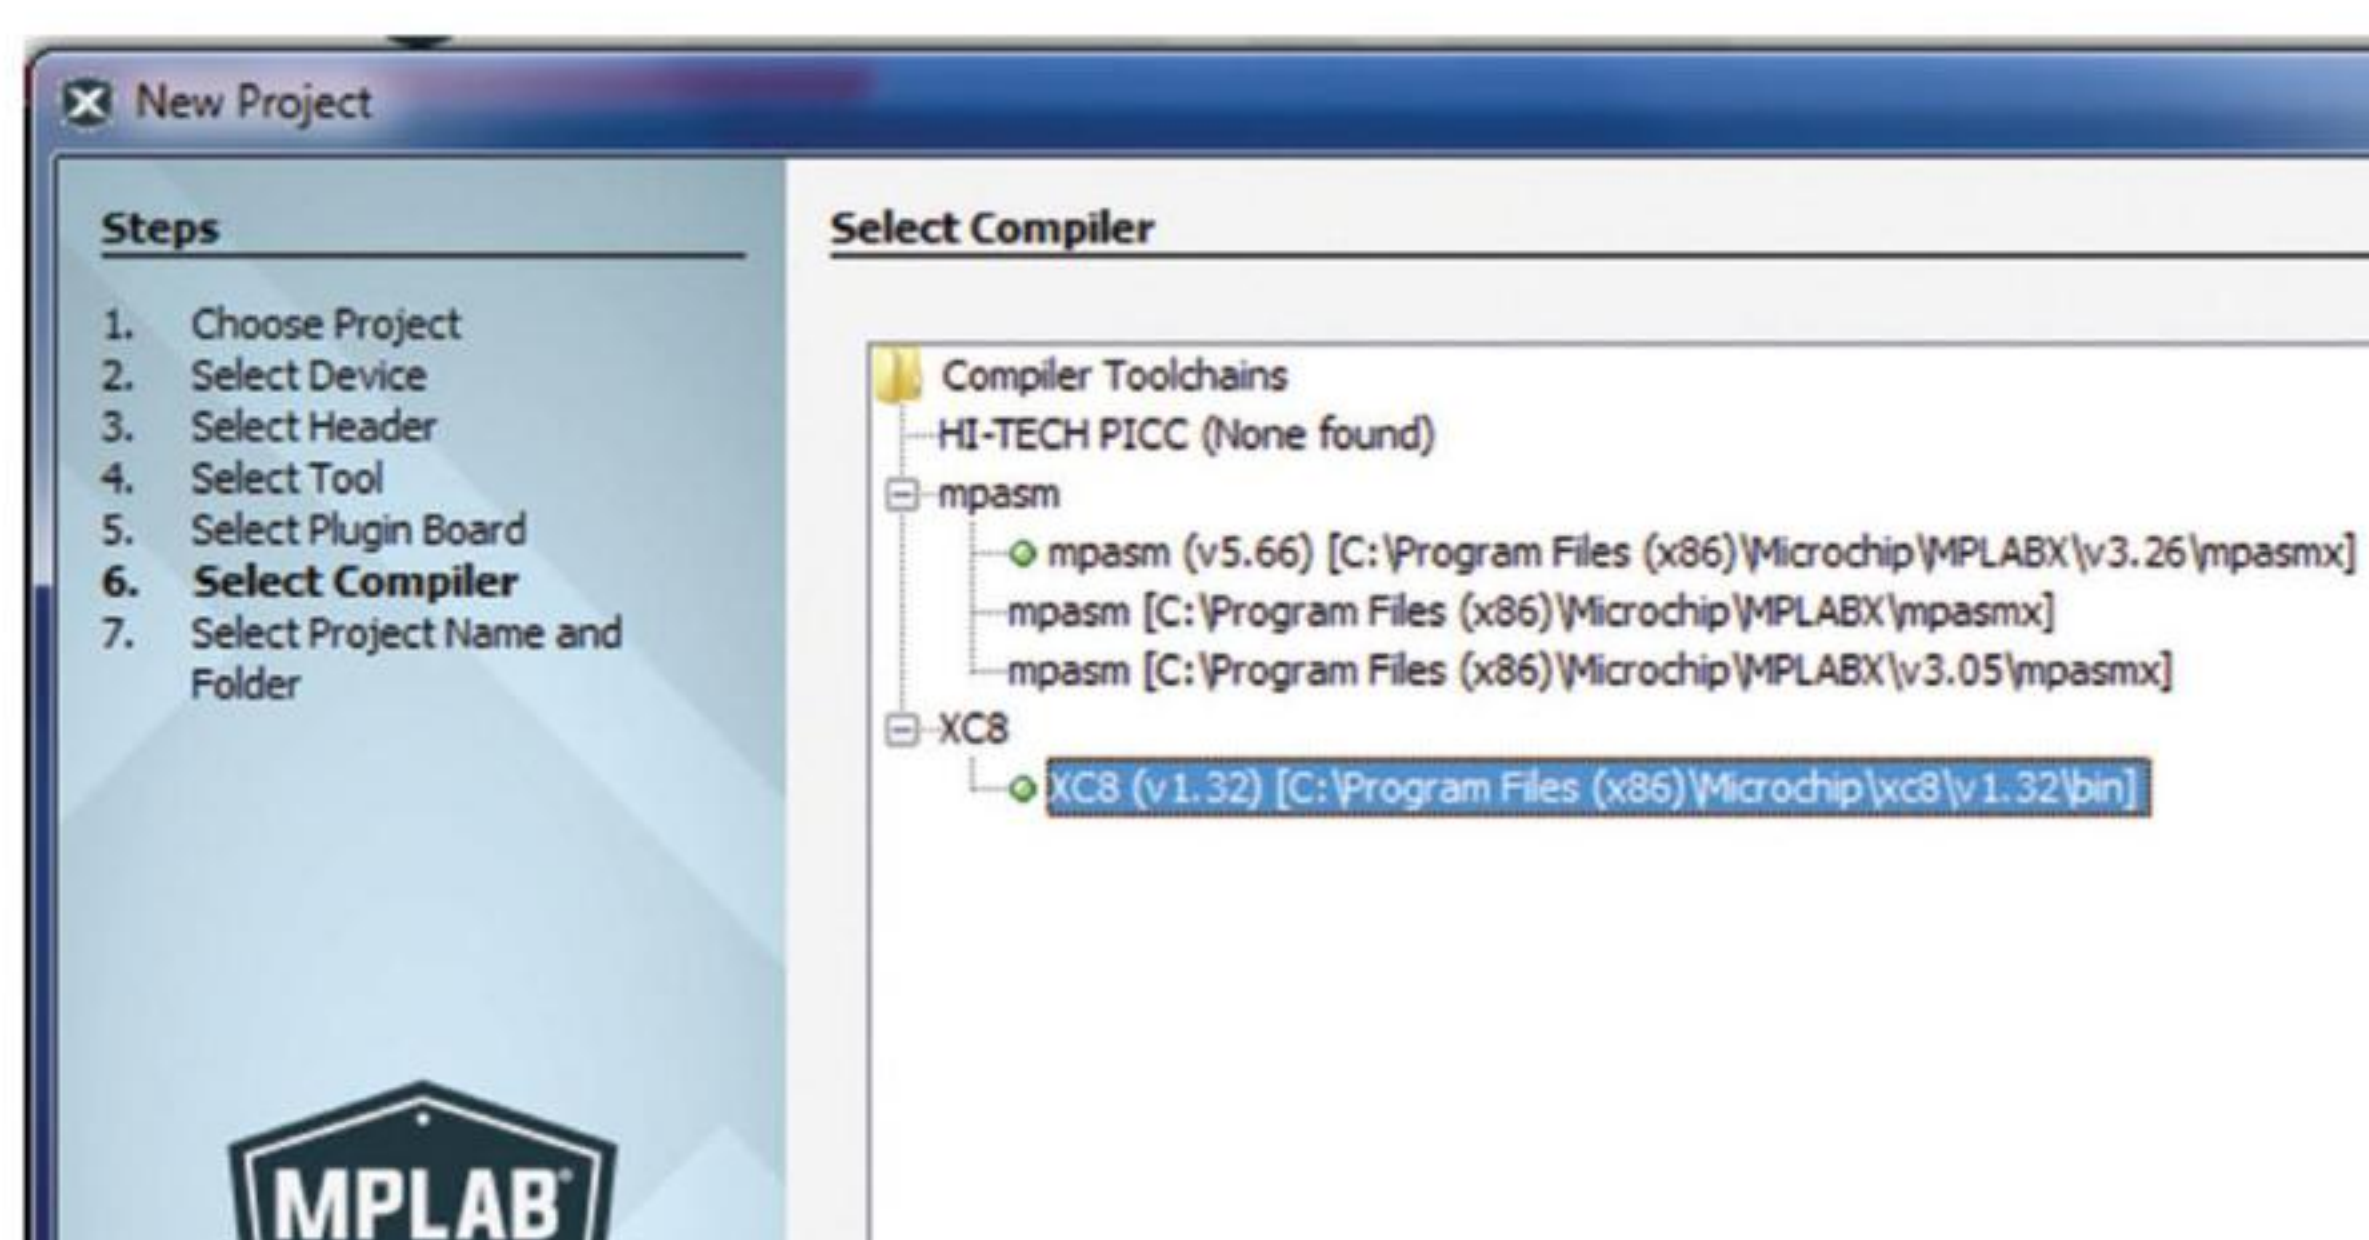

Fig.2. New Project → Select Compiler
5. Now we need to select our toolchain. Here we can choose between using our C compiler or our Assembly compiler. We're going to start with the C compiler. The XC8 compiler should be installed already, which should now be selectable here, see Fig.2. Click on the XC8 compiler and click Next.